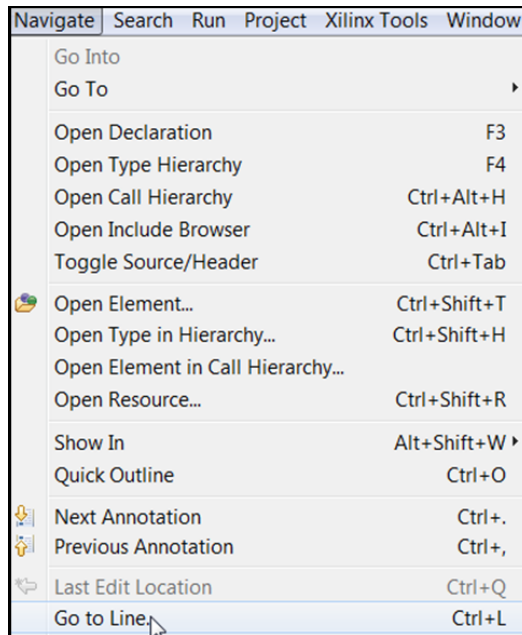

Figure 60: Go to Line
- Select **Navigate** > **Go To Line** (Figure 60).